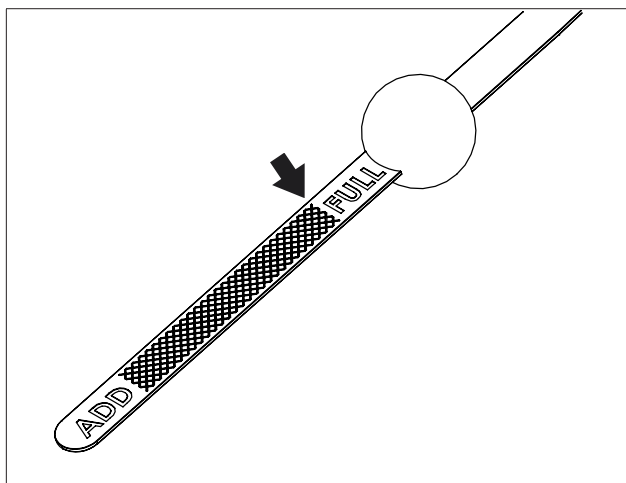

Figure 12
3. Remove the dipstick. Wipe it dry with a clean cloth and completely reinsert it into the dipstick tube. See figure 12, page 25.
- Fill the engine with the proper amount of engine oil. See Figure 12.